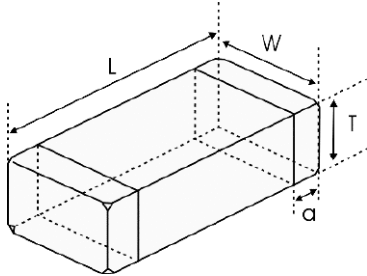

Fig.1
- Dimensions: See Fig.1 and Table 1.